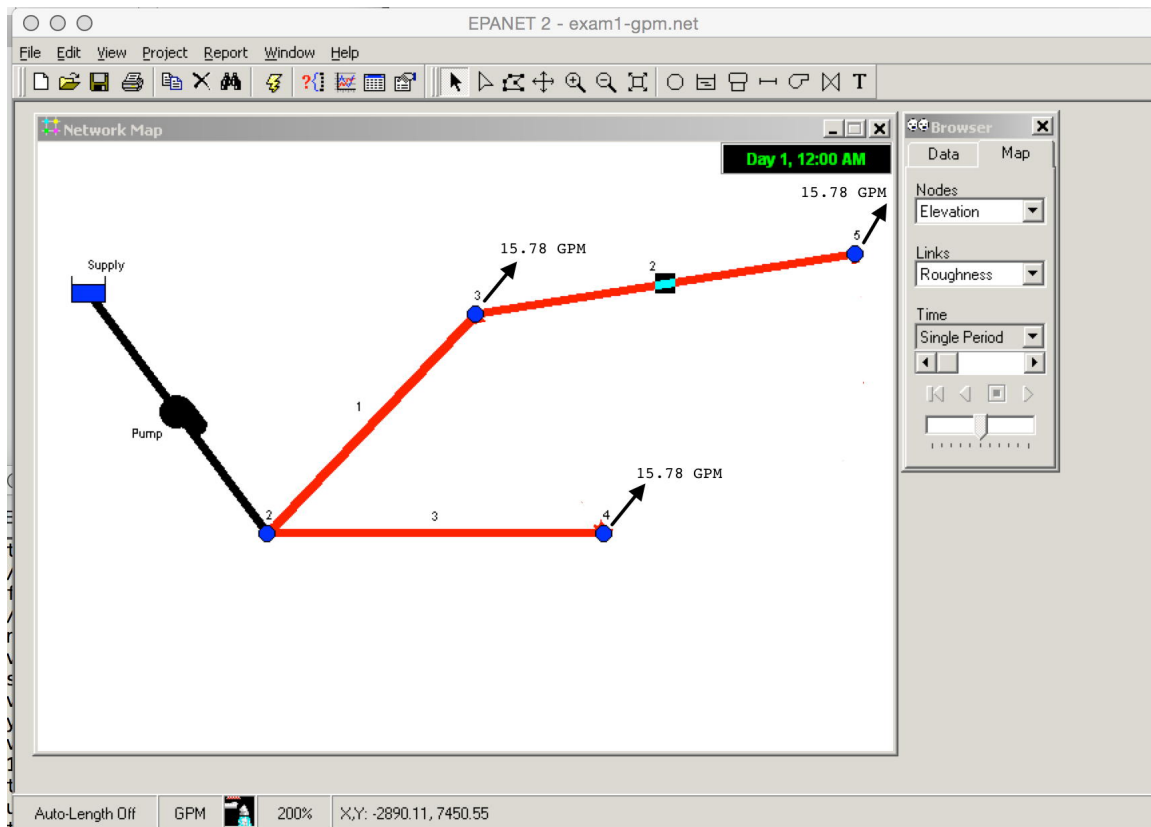

Figure 5: EPA-NET system topology.
- 1) Estimate the discharges, head losses, and nodal heads if pipes 4 and 5 are removed and the nodal demands are as shown on Figure 5. (Same demand as Simulation # 2.)²